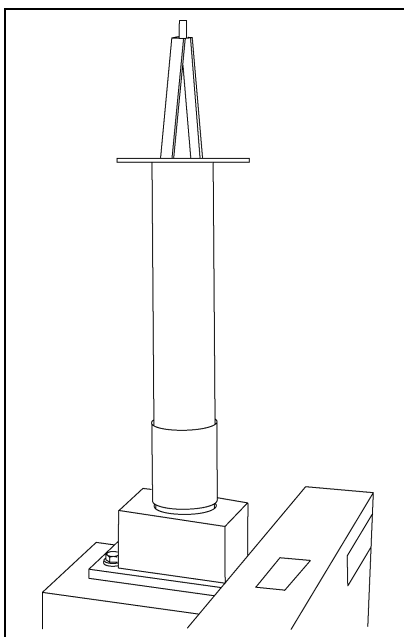
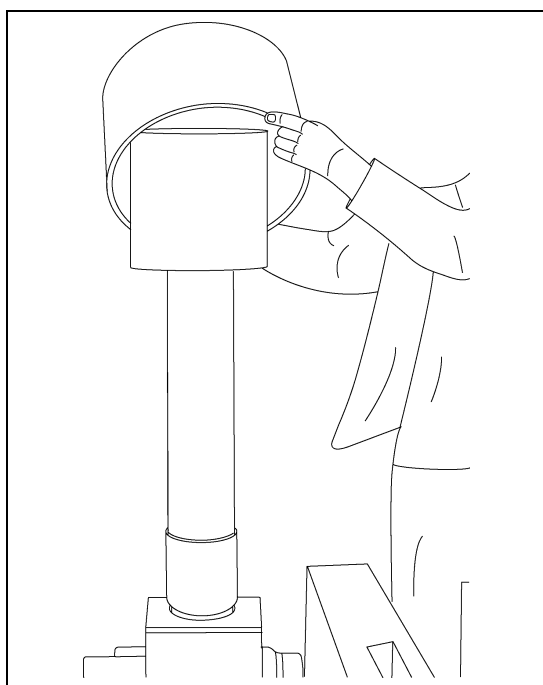
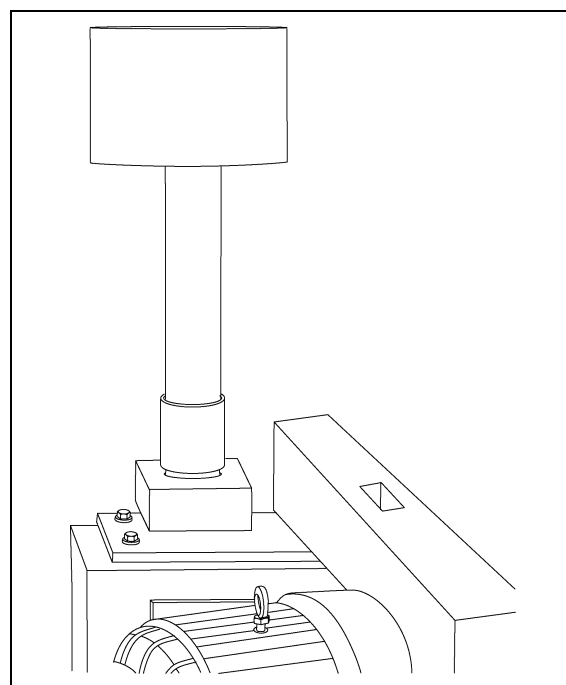

Figure 7A
Figure 7B
Figure 7C
2. Place the air filter element with pre-filter on the base and cover with the filter canister using the 3/8" wing nut and washer. The wing nut does not need to be more than finger tight. (See Figure 7A, Figure 7B and Figure 7C.)